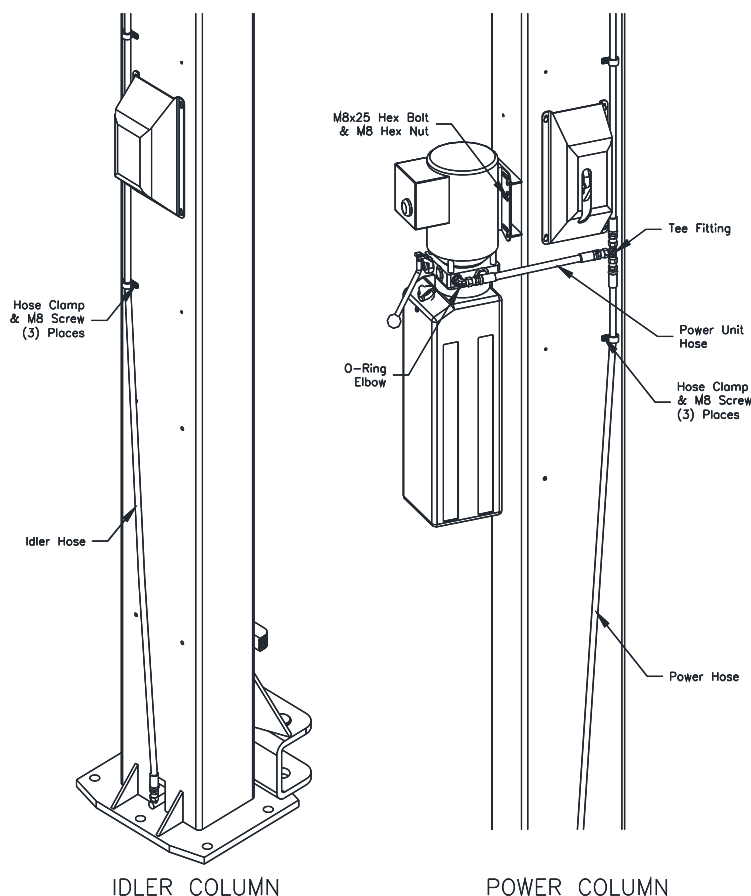

Fig. 6 – Hose Routing
- 19) Mount Power Unit to power column as shown in **Fig. 6** using (4) M8 hex bolts and nuts.
- 24) Route the power hose from the cylinder elbow fitting to the union tee provided. Connect idler hose and power unit hose to union tee as shown in **Fig. 6**.
- 25) Use hose clamps and M8 Screws to secure hydraulic hoses as shown in **Figure 6**.